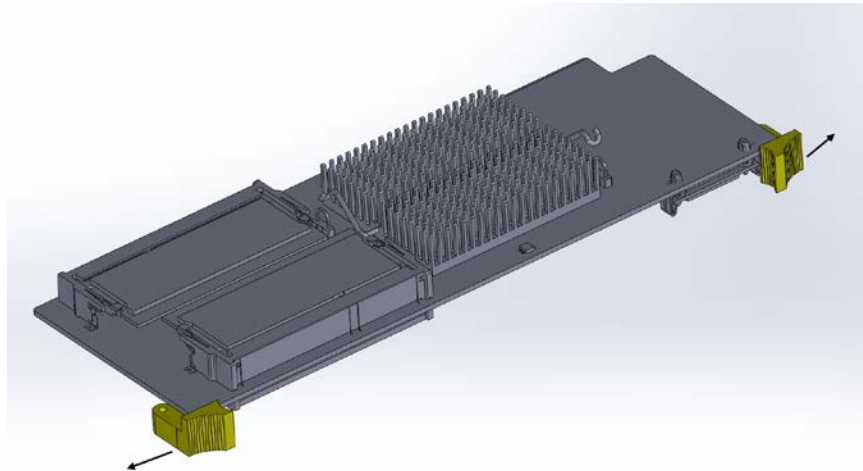

Figure 22 Concept of Latch Mechanism for Panther+
- Latches on the left and right side of the Panther+ PCB shall restrain it. These latches, shown below in Figure 22, will rotate horizontally, and will not be spring-loaded. If a latch is opened it will stay open until it is manually closed. These latches will have features that will impart a tactile feedback ("click") when in the fully open and fully closed positions. They must pass transportation shock and vibration testing in the closed position, without additional parts or packing material. There will be a hard stop to restrain the latch from opening wider than necessary to allow the card to pass by, thus eliminating difficulty in retrieving a latch that has over-rotated into the chassis. The design of the latches shall copy as closely as space allows, the shape and size of the example. The pivot features are TBD by the vendor.